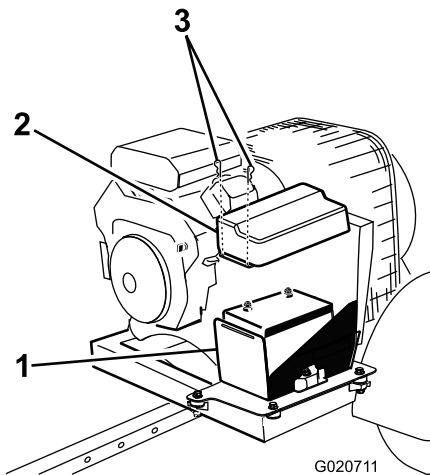

Figure 32
1. Remove the clips securing the battery cover to the battery box and remove the cover from the box (Figure 32).